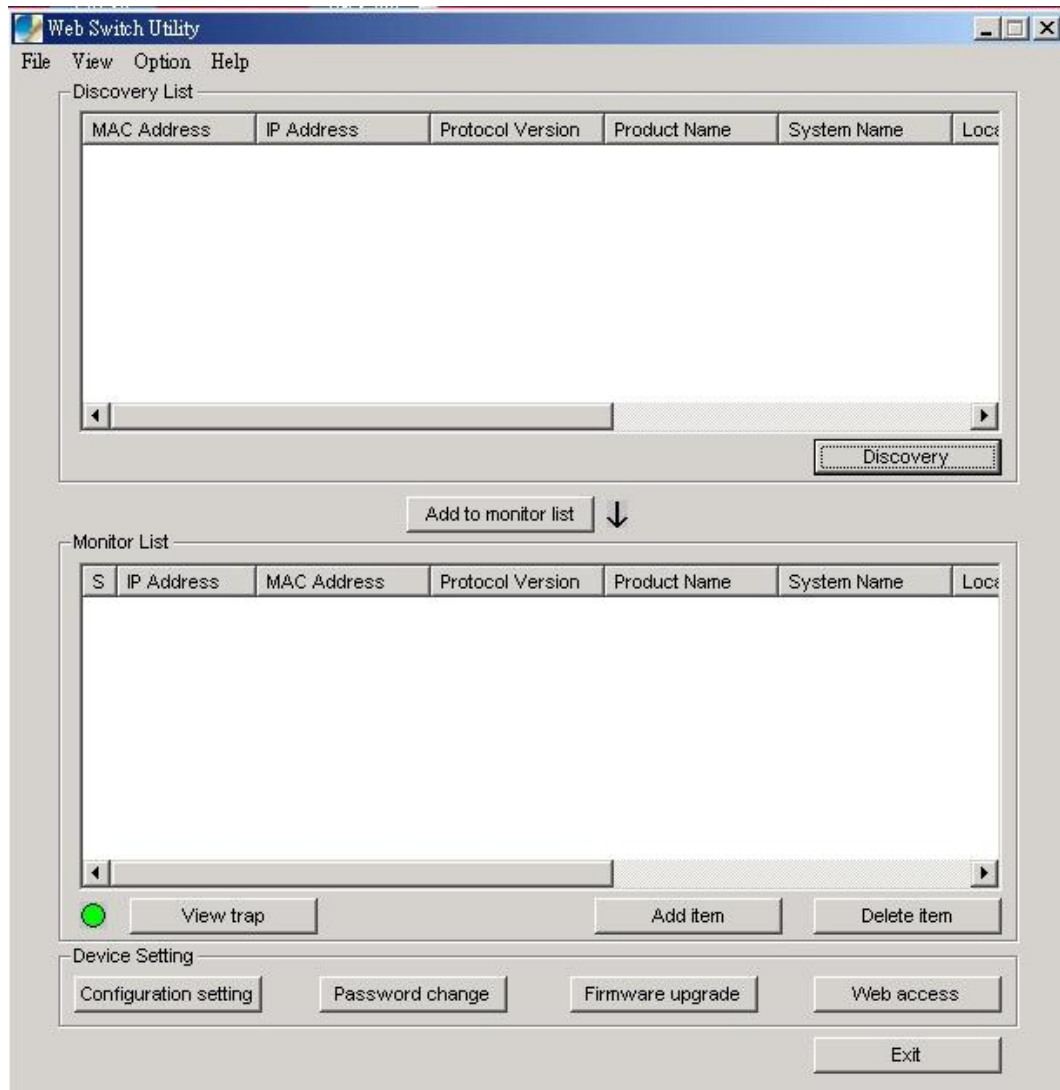

Figure 3-8 Web Switch Utility main screen
4. After install completed, choose **Program Files -> PLANET Web Switch** and execute the Web Switch utility. The screen in **Figure 3-8** appears.